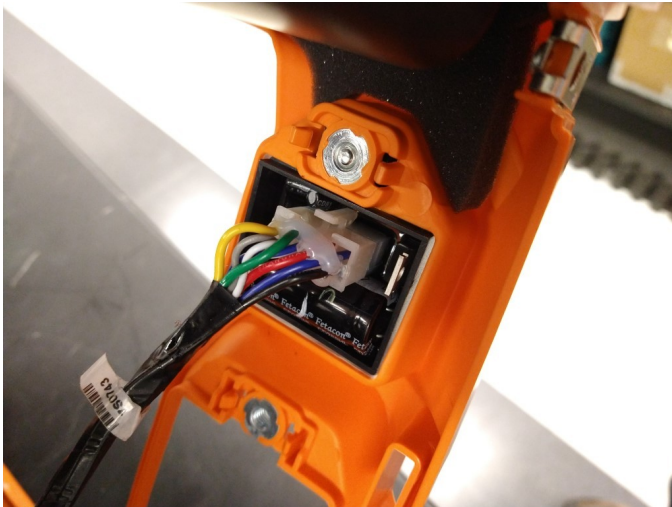
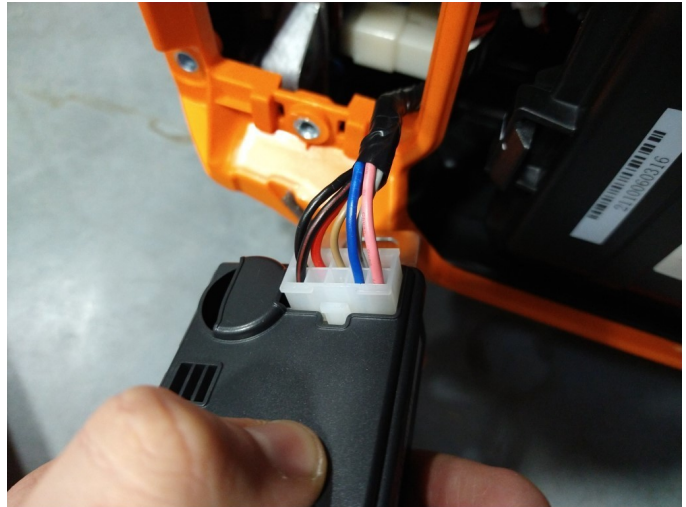

Fig. 7: Igniter wiring harness connected.
Fig. 8: CO sensor wiring harness connected.
11. As you remove the housing, disconnect the wiring harnesses from the igniter (Fig. 7) and CO sensor (Fig. 8), if your generator has one.